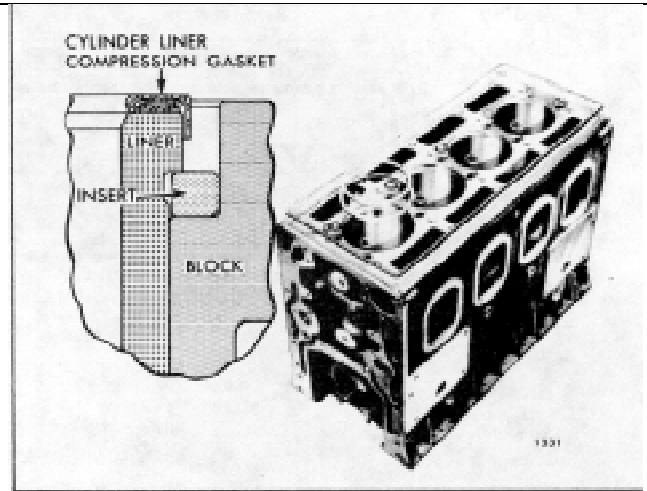

Fig. 14 - Cylinder Head Seals and Gaskets
1. Refer to Fig. 14 and install the water and oil seal rings and compression gaskets as follows: